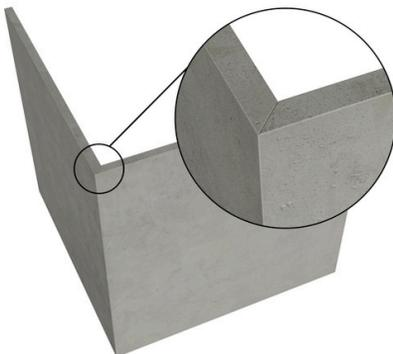

Figure 10
- Using a grinder with a fine diamond blade, or circular saw with a 4 toothed fiber cement blade, square cut your panel to the correct measurement. Next, cut the edge of the side panel at slightly more than a 45° angle, staying $1/32''$ below the edge (Figure 10). Refer to appendix A for guidelines to make mitered edge cuts.